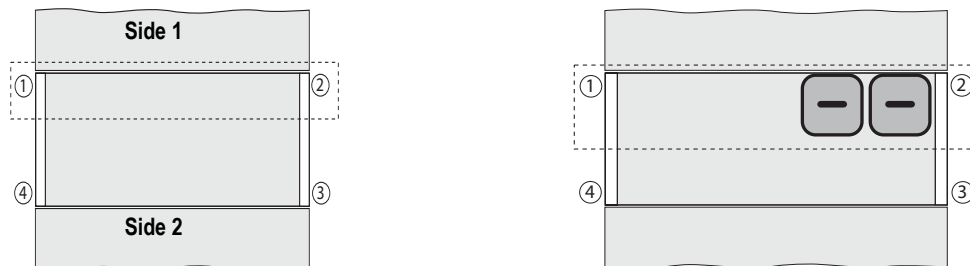

Figure 6-3. Trimming Load Cell Side Two
2. Place the certified test weights as close as possible to Side 2 being trimmed with the weight centered over the end load cell mount (number 3 in Figure 6-3). Record the indicator reading. Remember that the scale is still uncalibrated, so the indicator readings are simply raw counts rather than weight units.